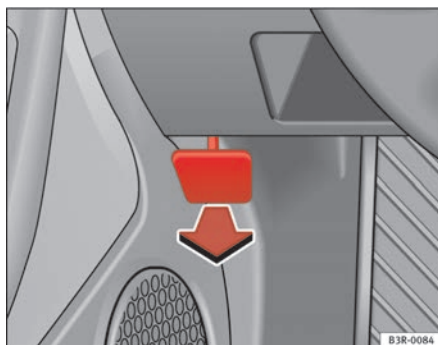

Fig. 162 Detail of foot-well area on driver's side: lever for unlocking the bonnet.
- To release the bonnet, pull the lever under the instrument panel ⇒ **fig. 162** in the direction indicated (arrow).